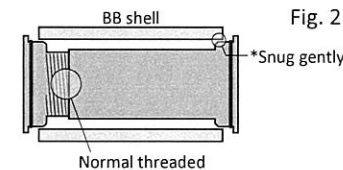

Fig. 2
- ② 左右のカップをBBシェルに挿入し、右回し(正ネジ)に手で軽く締め仮止めてください。—図2
- ② Insert the left and right cups into the shell and hand-tighten the cups loosely by turning them to the right. —Fig. 2